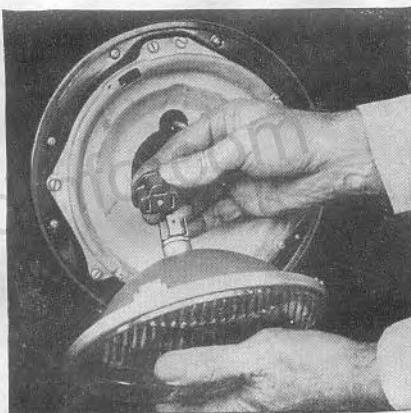

Fig. 30—Reflector Unit is Now Free from Lamp Body
4. Remove the reflector plug from the reflector unit. Refer to Fig. 30.